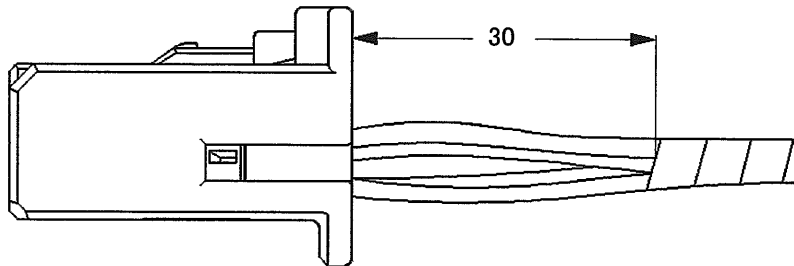

Fig.14
- (3) Insert the proper female housing straight into the male housing with the direction shown on Fig.14. If the operation is finished, you can hear the click sound and can't insert further.